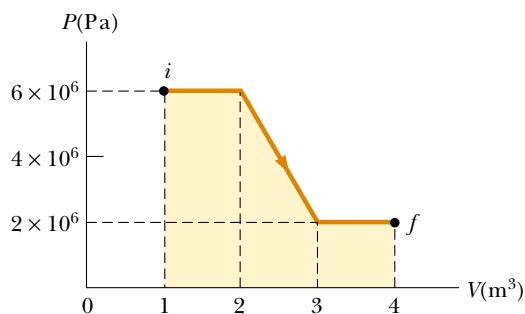

Figure P20.22
- 22.** (a) Determine the work done by a fluid that expands from i to f as indicated in Figure P20.22. (b) How much